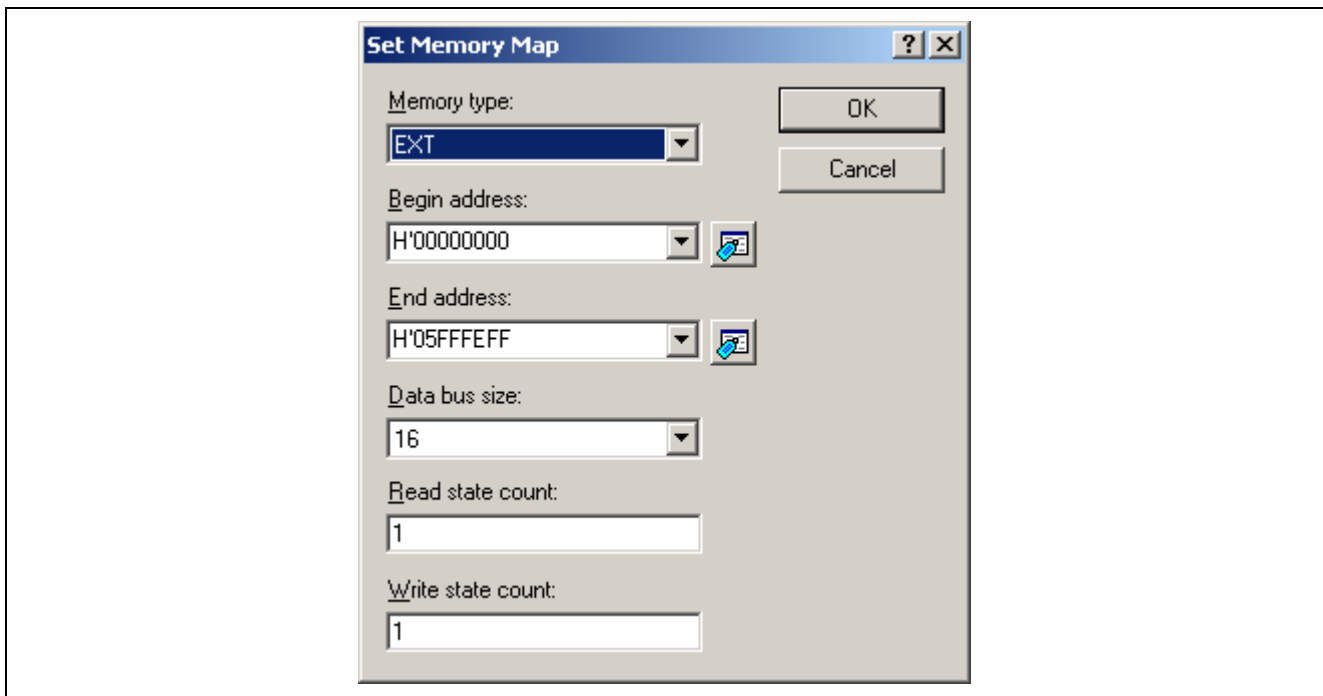

Figure 3.2 [Set Memory Map] Dialog Box
-  Add items to [Memory Map]. Clicking on this button opens the [Set Memory Map] dialog box (figure 3.2), in which an item can be added to the map.
-  Modify an item in [Memory Map]. Select the item to be modified in the list box and click on this button. This opens the [Set Memory Map] dialog box (figure 3.2), in which the selected memory map item can be modified.